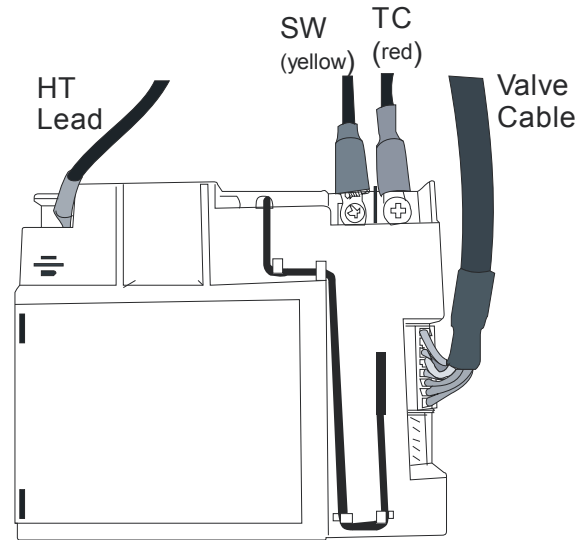

Figure 31
3. Feed the cables from the valve through the heat shield and connect to the receiver as shown in **Figure 31**, keeping the cables clear of the underside of the tray. Do not force the valve cable plug when inserting into the receiver – it only fits one way.